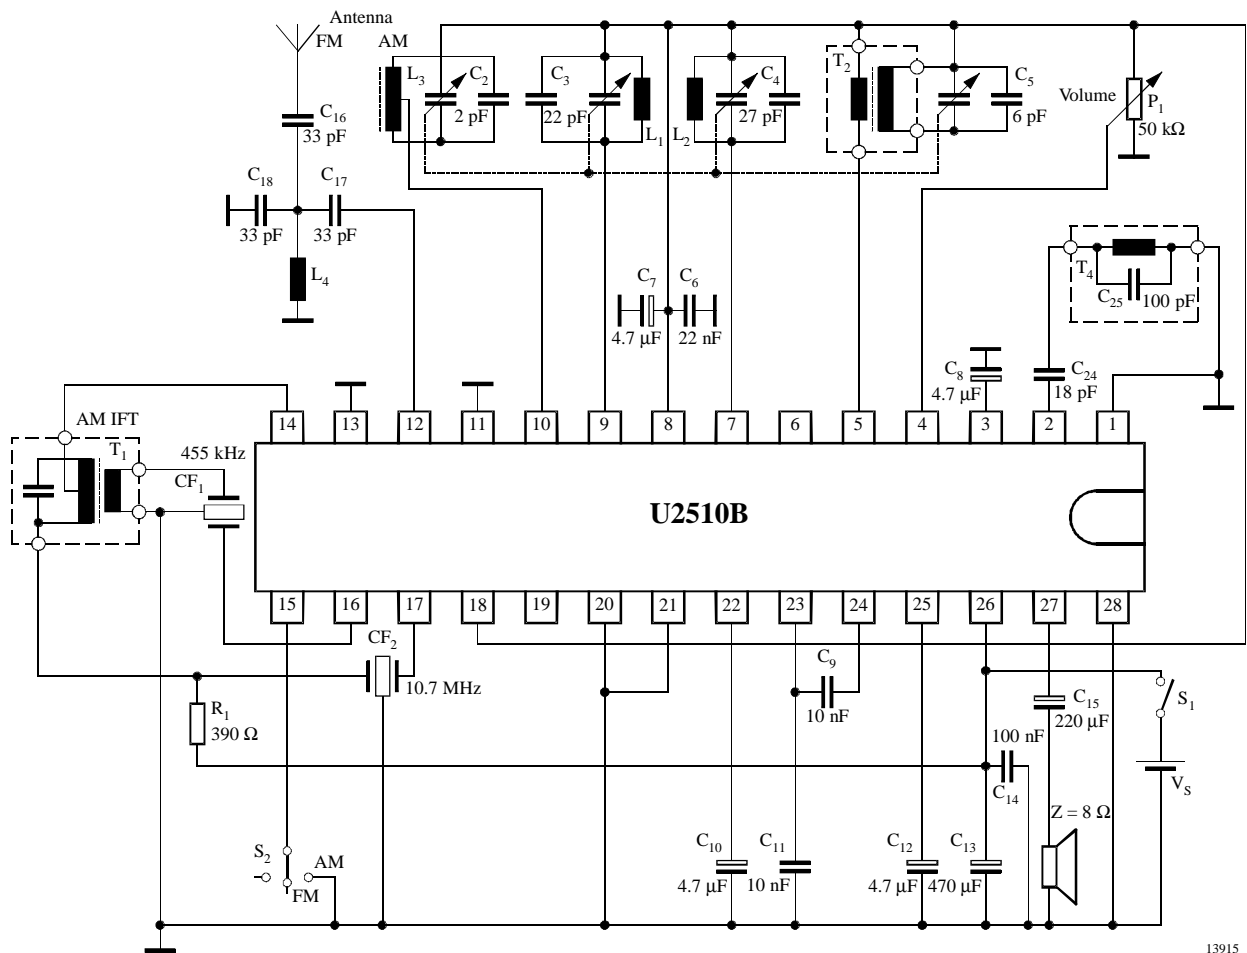
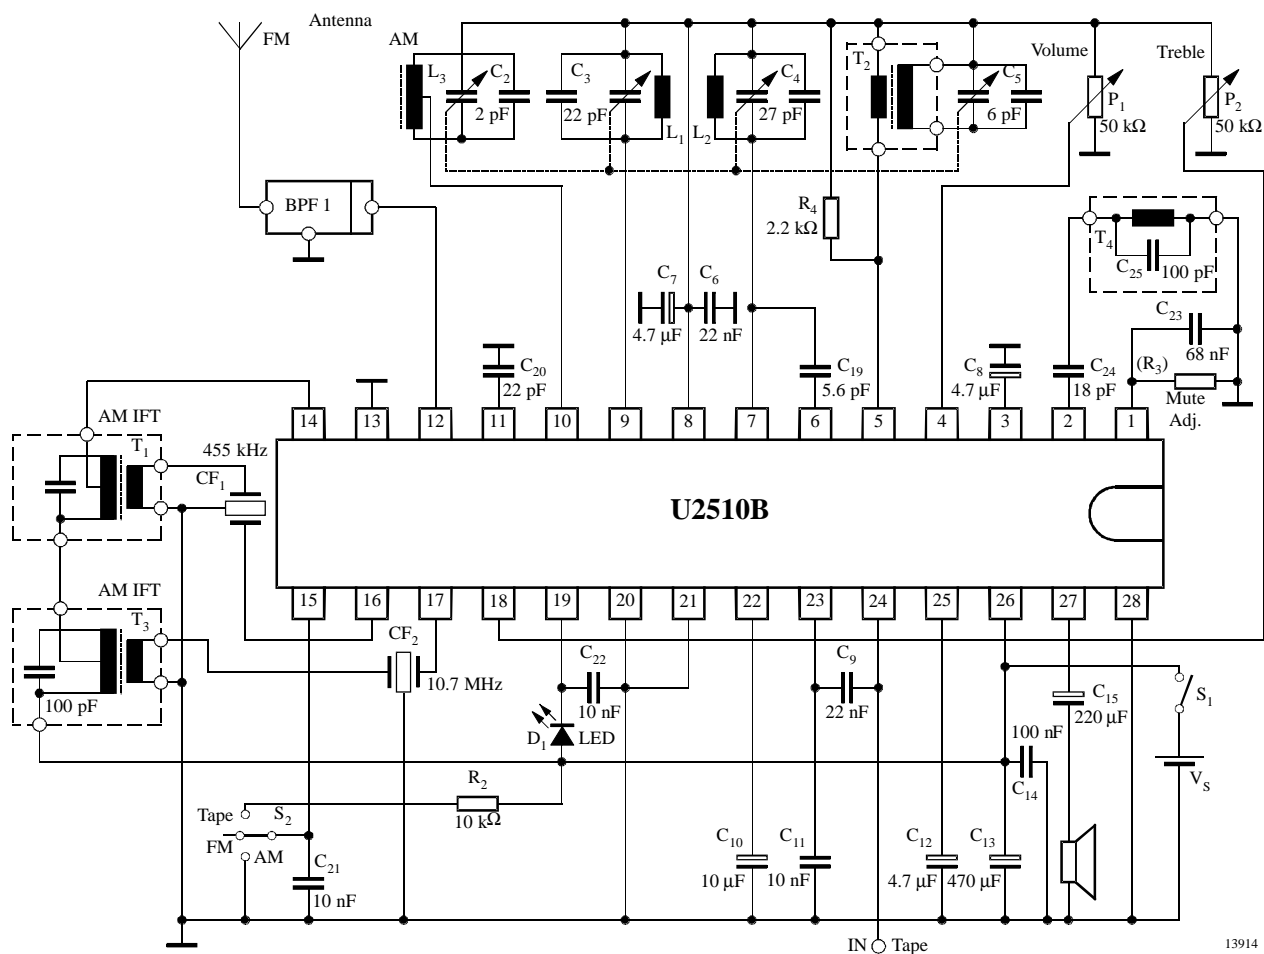

Figure 17. Application circuit (low cost)
Figure 18. Application circuit (upgraded) R2 only if VS > 8 V
Figure 17 shows a circuit diagram for low end AM/AF radios using the U2510B. Figure 18 shows a circuit diagram of AM/AF radio for higher class designs using all possible options of the U2510B. The layout of the PC board, shown in figure 19, is suitable for both the circuit example shown in figure 17 and the circuit example shown in figure 18. The associated coil, varicon and filter specifications are listed in the table: COIL DATA and SPECIAL COMPONENT PARTS. The circuit diagram (figure 18), has the following options compared to the circuit diagram (figure 17) (the additional parts, which have to be provided, are listed in parentheses):
Option e) improves the tuning behavior substantially. The special design of the on-chip AFC function means that common disadvantages such as asymmetrical slope, (chip-) temperature effects and unlimited holding range are avoided. As mentioned in the "Pinning Description Table", the AFC slope has to be inverted when the local oscillator (LO) frequency has to be below the receiving frequency. This can be achieved by connecting Pin 21 to the potential of Pin 8. In addition to the options described above, the following proposals are implemented in the circuit diagram (figure 18), too:
As shown in the application circuit diagrams (figures 17 and 18), in FM mode ceramic filter devices are used for channel selection ( $CF_2$ ) while for FM, demodulation in LC-discriminator circuit ( $T_4$ ,  $C_{24}$ ,  $C_{25}$ ) is used instead of a ceramic discriminator device.